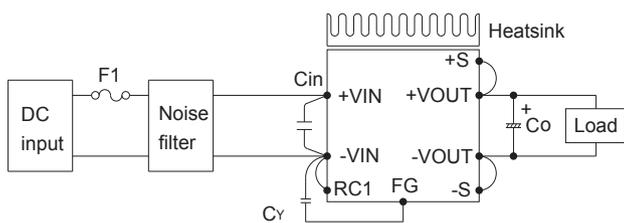

Fig.1.1 Connection for standard use
■ In order to use the power supply, it is necessary to wire as shown in Fig. 1.1 and external components in table 1.1.